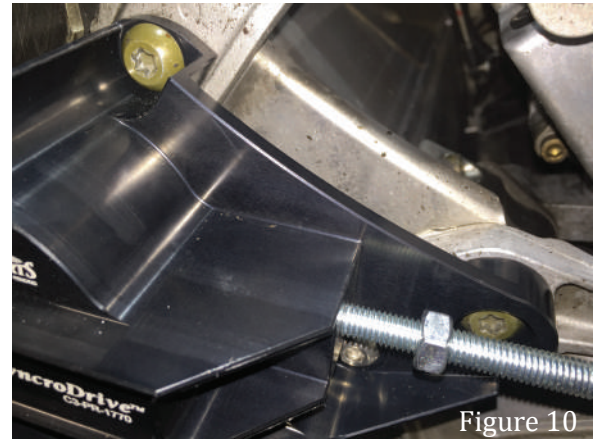

Figure 10
9. Install tensioner assembly using the 2 long factory bolts in the 2 upper most tensioner locations and the supplied bolt in the lower tensioner location use blue Loctite. Torque all 3 bolts to 20 ft-lb. See fig 10.